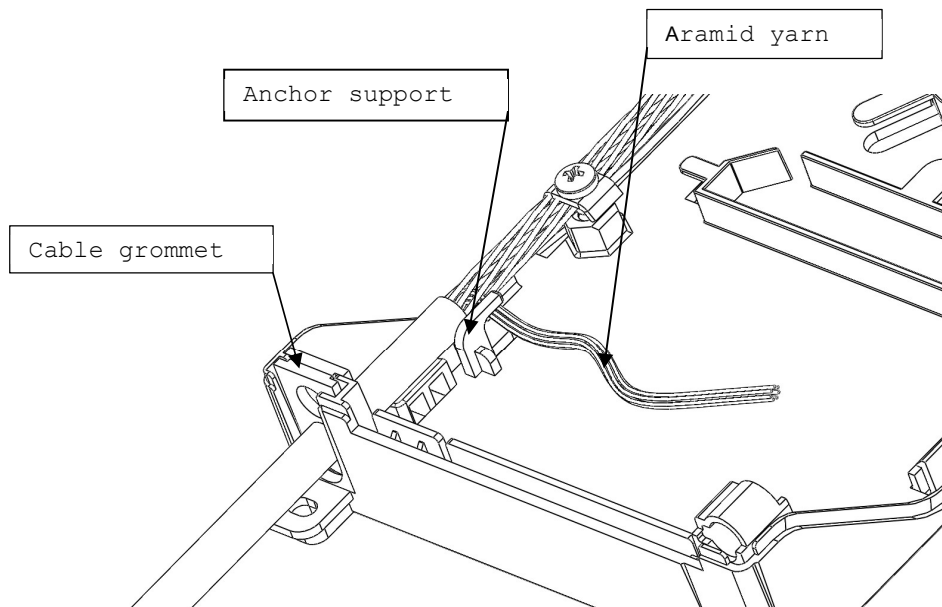

Fig. 11
3.1.7. Pass the aramid under the anchor support of the internal base as shown on Fig. 11;